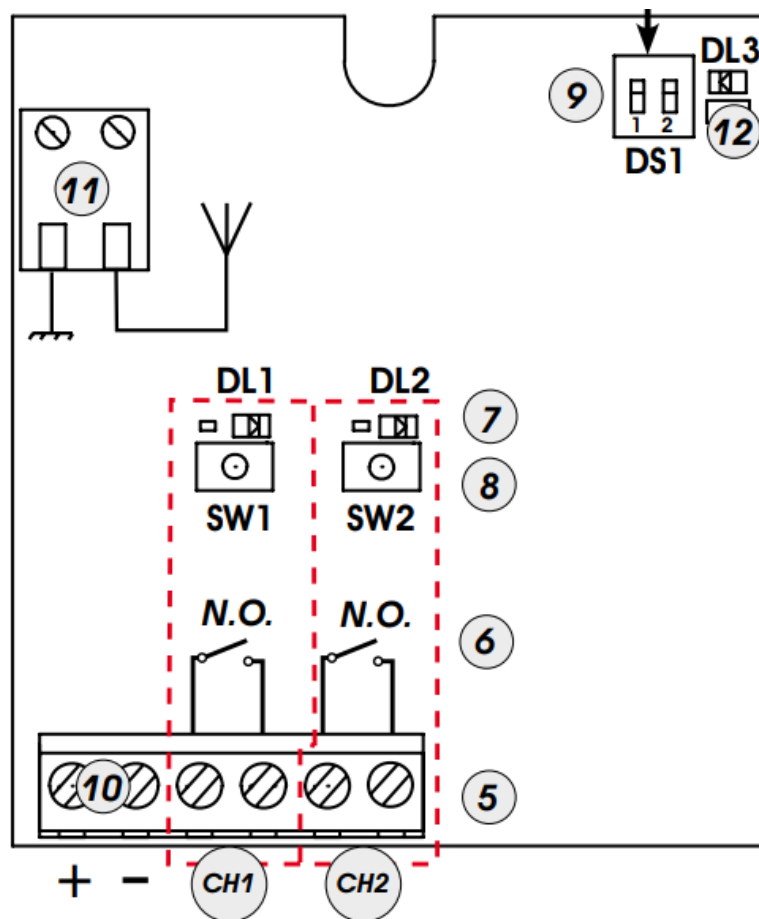

Fig.1
2. Press for 1 second the push-button on the receiver (Fig.1 ref 8) relating to the channel you wish to associate with the radio control.
3. The relevant LED on the receiver (Fig. 1, ref. 7) begins to flash slowly for 5 secs.
5. The relevant LED (Fig.1 ref. 7) lights up on a steady beam for 1 second and then goes OFF, indicating that storage was executed.
4. Press, for 1 second, the push-button on the receiver (Fig.1 ref 8) relating to the channel you wish to associate with the radio control.
5. The relevant LED on the receiver (Fig. 1, ref. 7) begins to flash slowly for 5 secs.
7. The LED on the board (Fig.1 ref 7) lights up on a steady beam for 1 second and then goes OFF, indicating that storage was executed.
1. Press, for 1 second, the push-button on the receiver (Fig.1 ref 8) relating to the
2. The relevant LED on the receiver (Fig. 1, ref. 7) begins to flash slowly for 5 secs.
4. The LED on the receiver (Fig.1, ref 7) lights up on a steady beam for 1 second, indicating memory storage executed, and then resumes flashing for another 5 secs, during which another radio control can be memory-stored.
- **b)** Press and simultaneously hold down push-buttons P1 and P2 until the flashing light of the LED (Fig.1, ref 7) on the receiver board lights up.
- **f)** The LED (Fig.1 ref 7) lights up on a steady beam for 2 seconds, indicating memory storage executed, and then resumes flashing for 5 secs, during which point “e” can be repeated, and also the subsequent points, for other remote controls and finally goes OFF.
1. To delete ALL the radio control codes associated with channels 1 and 2, hold down push-button SW1 or SW2 (Fig.1 ref 8) for 10 seconds.
2. The LED (Fig.1, ref. 7) relating to the pressed push-button flashes for the first 5 secs, and then flashes more quickly for the next 5 secs.